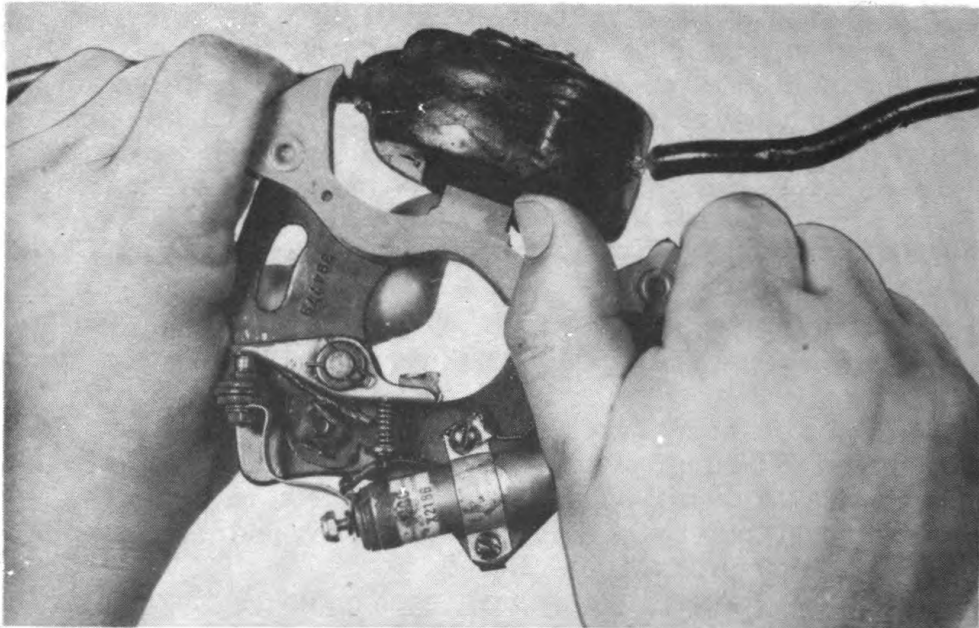

Fig 48. Forcing magneto coil off stator plate.
b. Push coil up on pole of stator plate for a short distance by pressing hard as shown in figure 48. Do not use screw driver or other instrument as insulating of coil must not be broken.